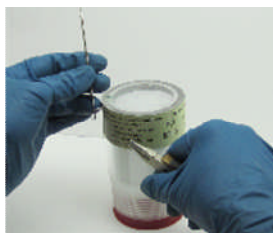

Figure 6
1.4. Remove cotter pins using small pair of pliers and miniature-hook pick (Figure 6 & 7)